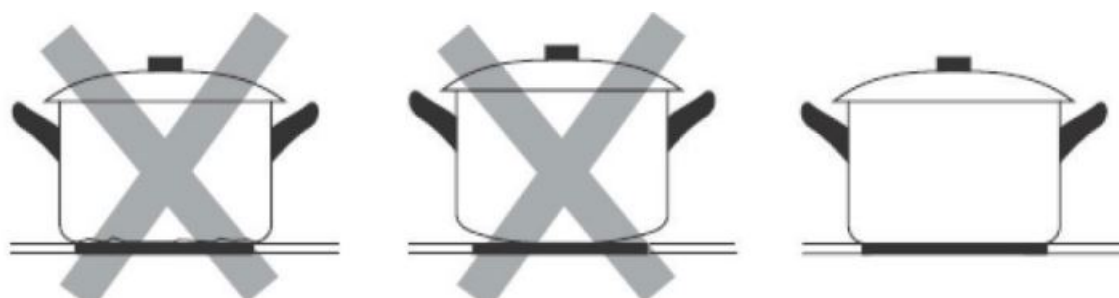

Fig. 3
- Do not use cookware with bulging or irregular bottoms (Fig. 3) or otherwise the cooking effectiveness could be reduced and may result in extension of the cooking time.